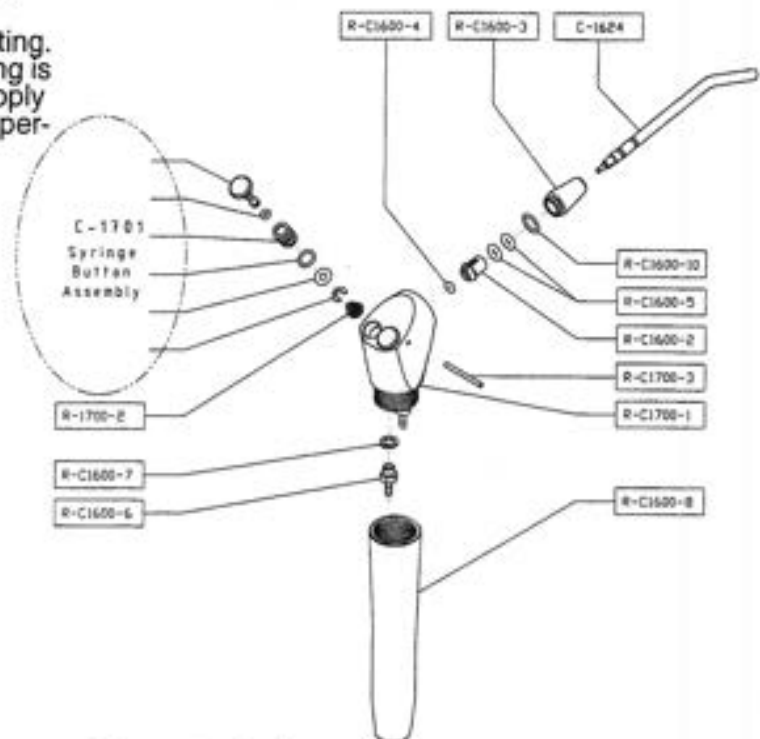

Figure 12. Syringe.
2. Replace the tip by inserting a new one into the tip socket, and firmly pushing into place until you feel it softly "pop" into place. To ensure it has been fully inserted, the uppermost small groove on the tip shank must be just visible over the end of the socket. See Figure 12.
Solution: Replace the button assembly # C-1701 (See figure 12). Turn water and air supply off. Depress air and water buttons on Syringe to relieve residual pressure. Hold both buttons down and use a paperclip to push cross pin out of syringe head. Gently remove button from head, being careful not to lose conical spring beneath. To install new button, ensure that conical spring is seated with the small end pointing up. Gently push into place and hold both buttons down firmly while re-inserting cross-pin.
Solution: Ensure tip is properly and fully inserted. If so, replace O-ring #R-C16004 (See Figure 12). Twist conical tip socket assembly (R-C21600-3) off of syringe head to access this O-ring. When re-installing tip socket assembly, hand tighten only. If tip cannot be fully inserted, then socket is too tight.